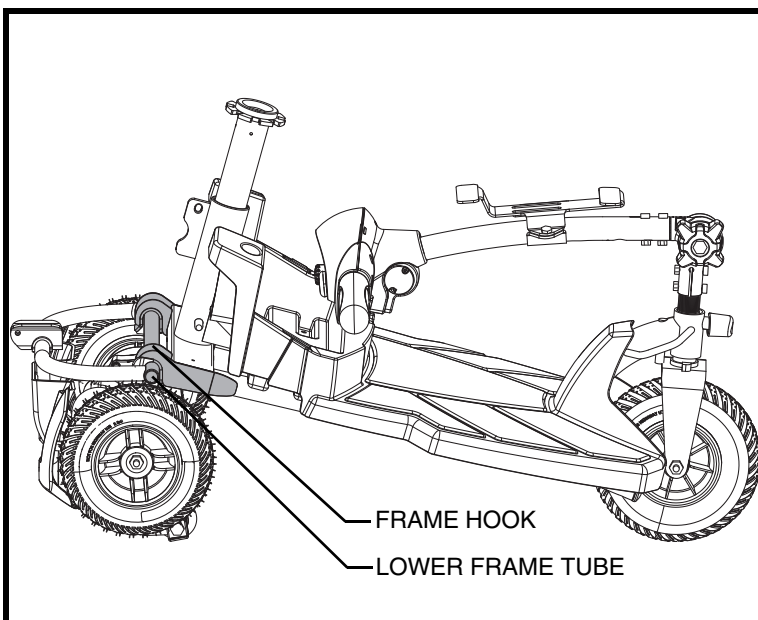

Figure 25. Frame Separation
4. Slowly separate the two sections of the Travel Scooter. **See figure 25.**
NOTE: Before attempting assembly, tilt the rear half of the Travel Scooter slightly back on the anti-tip wheels as show in figure 25.
1. Use the seat post to lift the front section as you align the frame hooks of the front section with the lower frame tube of the rear section. **See figure 25.**